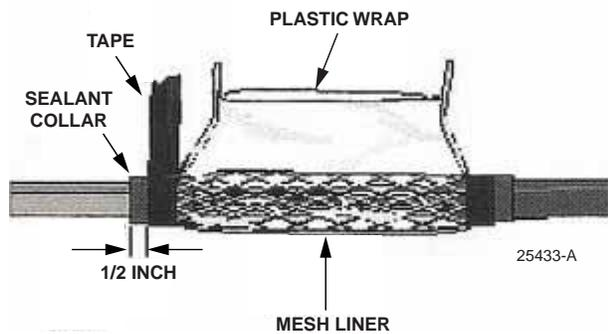

Figure 4
6. Leaving 1/2-inch of sealant collar exposed, secure the wrapper with two laps of tightly wrapped vinyl tape. Repeat Steps 5 and 6 for the other end of the splice opening. Refer to Figure 4.